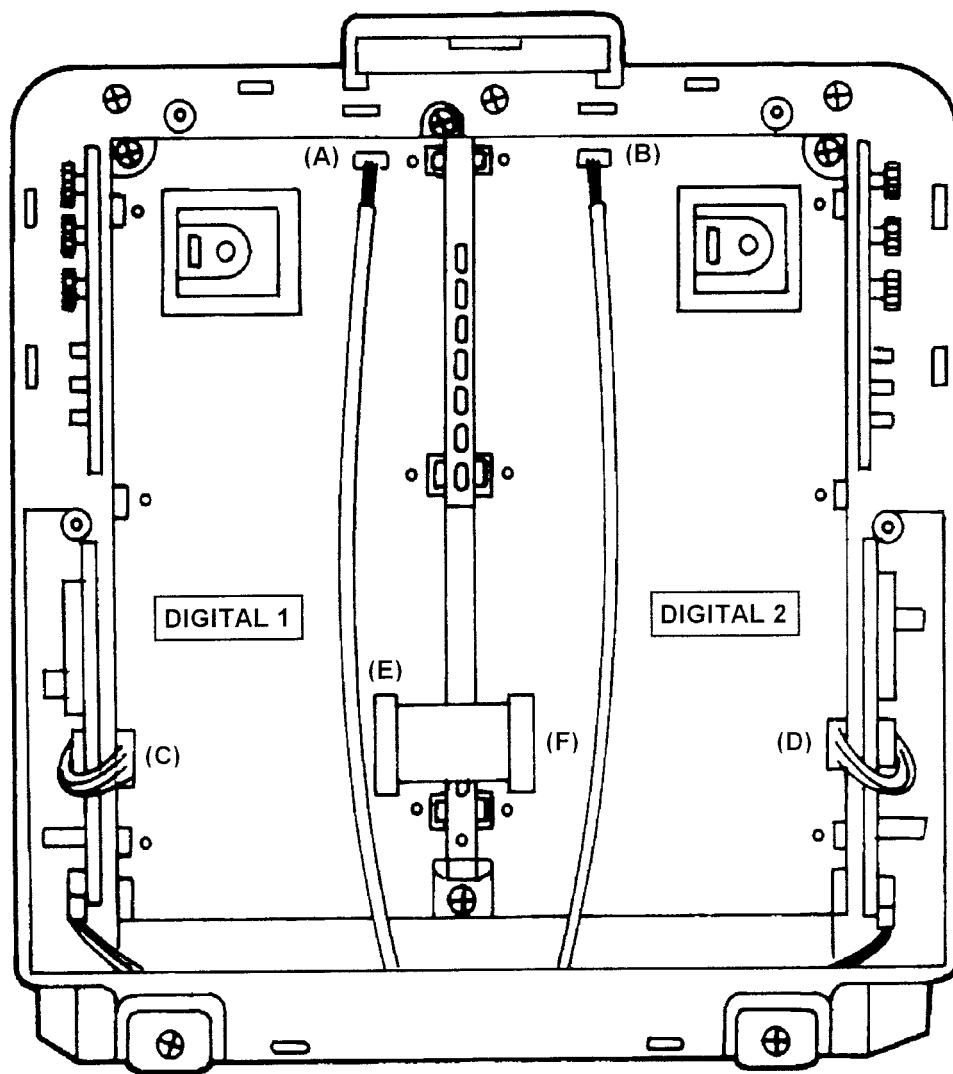

Figure 15
2. Disconnect the connector (A): P35704 on the Digital 1 P.C.Board and connector (B): P33004 on the Digital 2 P.C.Board as shown in Figure 15.
3. Disconnect the connector (C): P35706 on the Digital 1 P.C.Board and connector (D): P33006 on the Digital 2 P.C.Board as shown in Figure 15.
4. Remove the flexible cable, which is connected between connector (E): P35705 and (F): P33005 as shown in Figure 15.